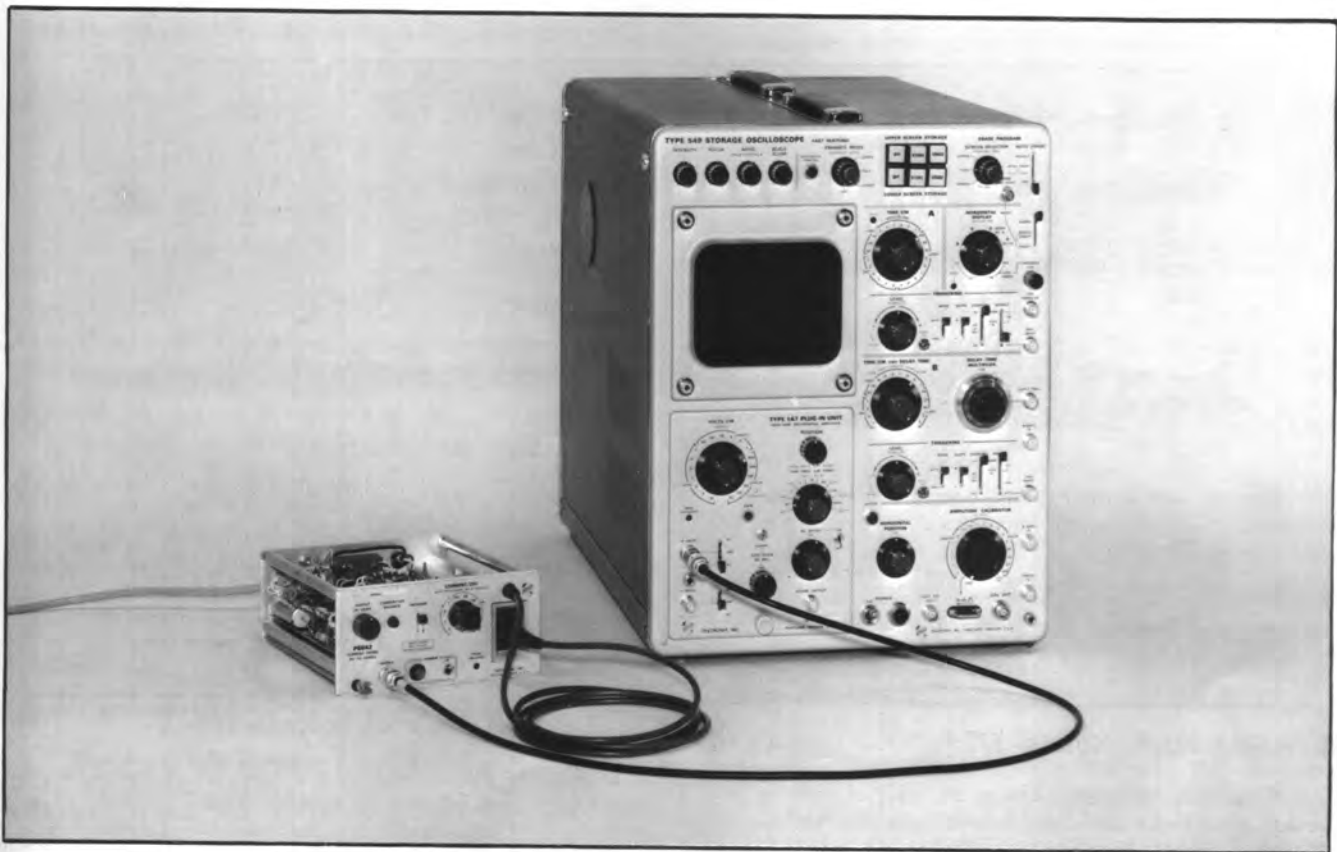

Fig. 6-6. Test setup for steps 6 through 9.
6. Adjust Output DC Level Range (R93) ①
a. Remove the 1 \times probe and connect the 50 Ω termination to the + Input connector. Connect a 50 Ω cable from the P6042 OUTPUT to the termination. See Fig. 6-6.
a. Reconnect the P6042 OUTPUT, terminated in 50 Ω, to the oscilloscope input. See Fig. 6-6.